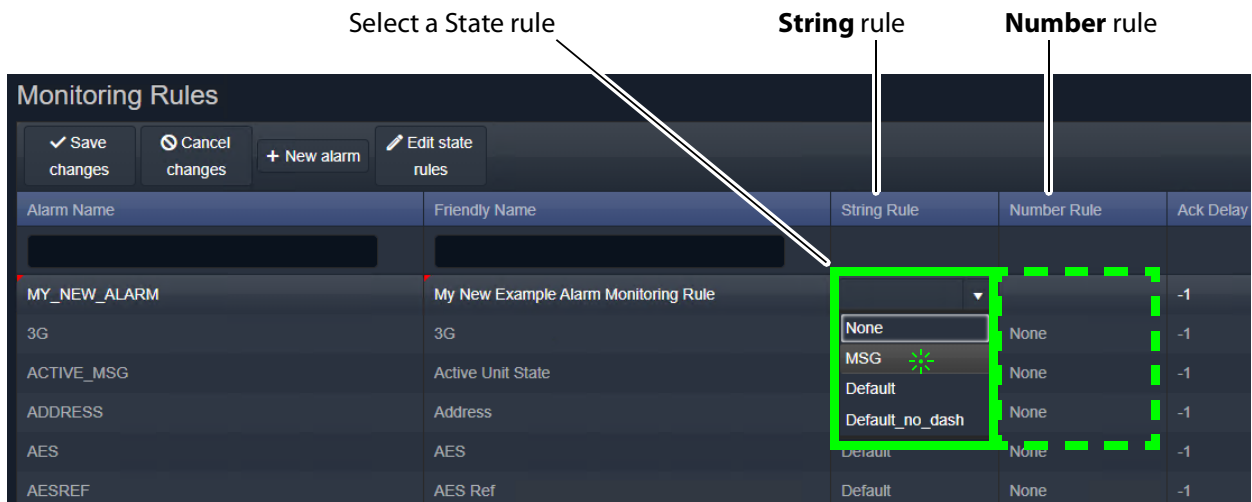

Figure 65: Select a State Rule to Use (String or Number)
- 4 Select state rule to use (for example, a **String** rule and/or a **Number** rule). See Figure 65.